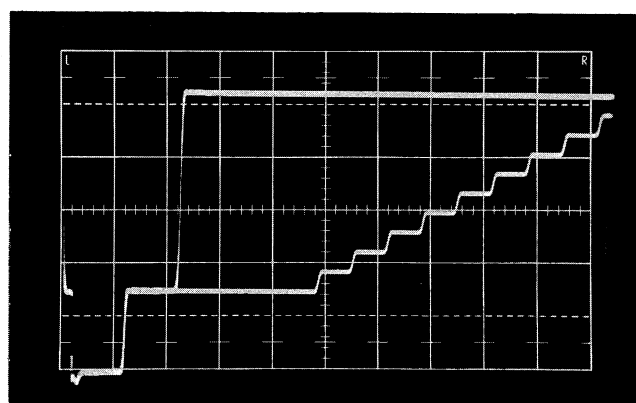

Fig. 6-18. Typical transient response of luminance filter as displayed on a test oscilloscope.
e. CHECK—Test oscilloscope display; waveform should have a flat top with minimum aberrations (aberrations less than 1% in amplitude); see Fig. 6-18.